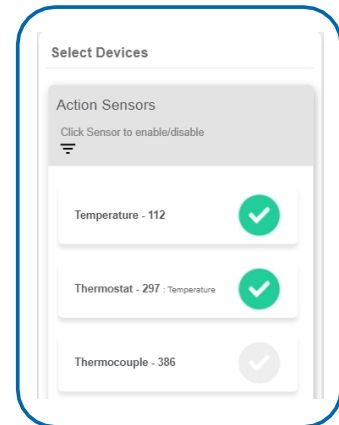

Figure 24
- By default, the sensor(s) will not be assigned to the action conditions you've just set. To assign a sensor, find the device(s) you want to designate for this action and select. Selected sensor boxes will turn green when activated. Choose the sensor box again to unassign the sensor from the action. See Figure 24.